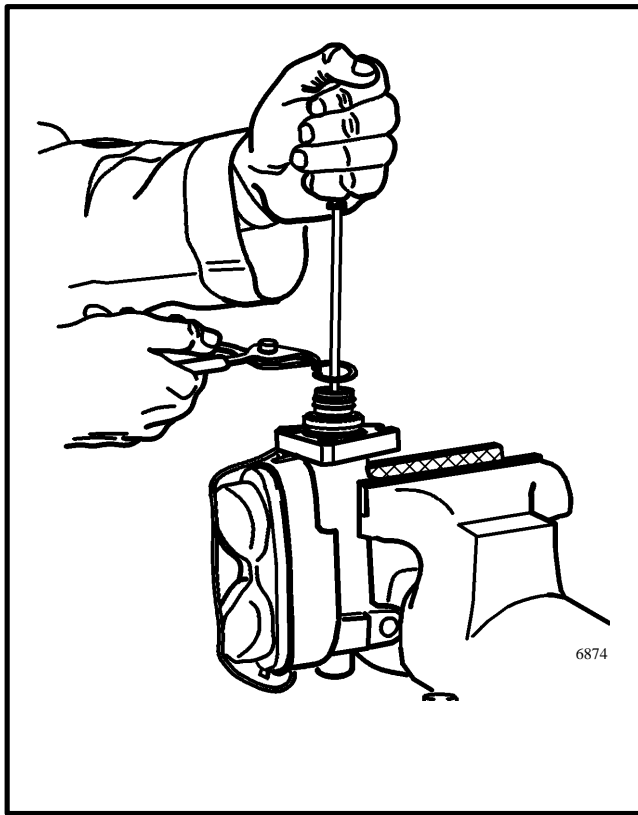

FIGURE 2. REMOVE THE PISTON
3. Put the master cylinder in a vise with soft jaws as shown in FIGURE 2.